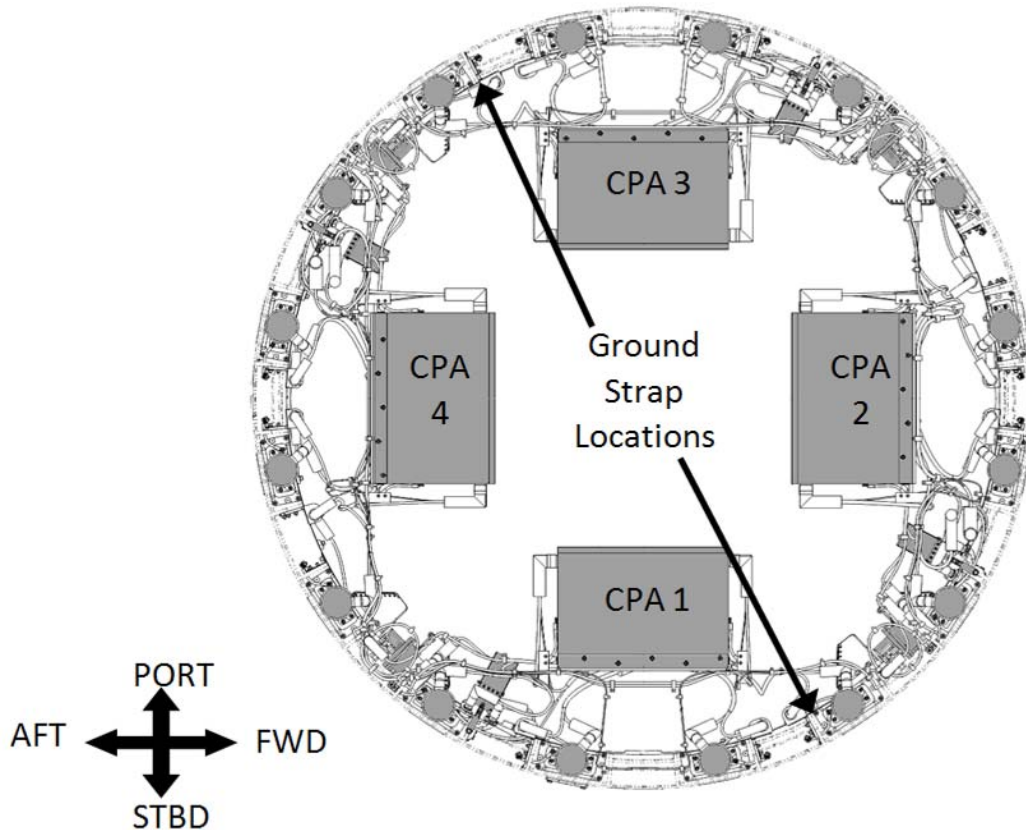

Figure 29.- Ground Strap Locations on ACBM (view from inside PMM looking Zenith towards Node 1, CPAs will not be installed at this point in the procedure).
- 12.1 Locate four Ground Strap Mounting Brackets (two on Active CBM Ring and two on Passive CBM Ring). Refer to Figures 29 to 31.
Refer to Figures 29 to 32.